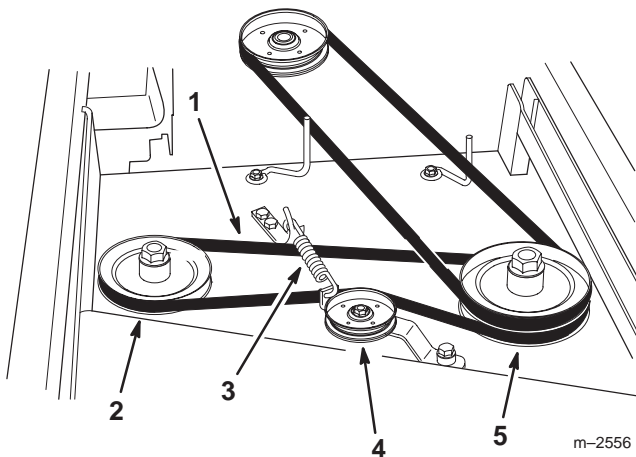

Figure 25
2. Grease the fittings on both spindle bearings (Fig. 25).
4. Disconnect the idler arm spring to relieve tension on the idler arm and idler pulley, then remove the worn deck belt (Fig. 25).
5. Install the new deck belt around the right spindle pulley, idler pulley, and in the lower groove of the left spindle pulley (Fig. 25).
6. Reconnect the idler arm spring (Fig. 25).